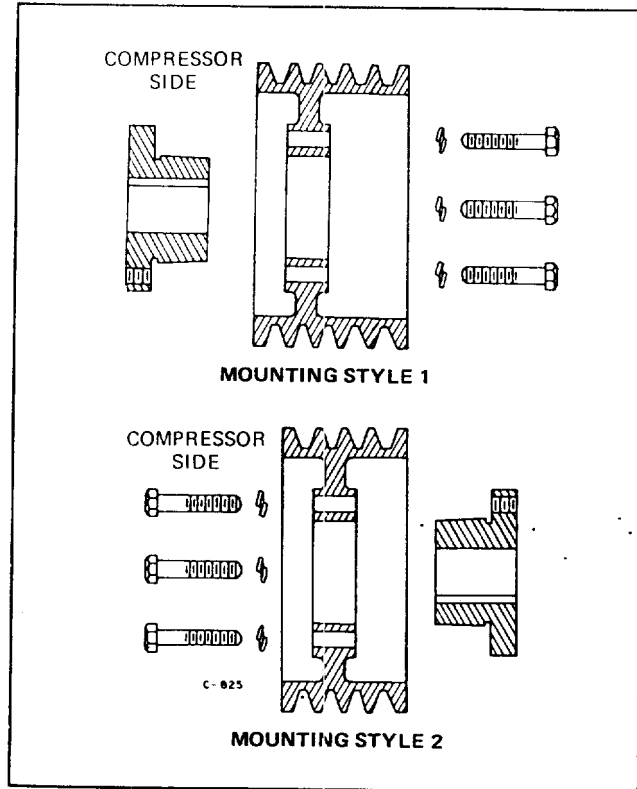

Figure 9. Assembly of Sheave and Bushing
3. Assemble bushing and sheave as shown in Figure 9. Cap screws should be loosely inserted so that the bushing remains fully expanded to assure a sliding fit on shaft. Bushing and sheave should be assembled using mounting style 1 or 2 depending on distance required from compressor centerline to side of sheave, as shown on foundation plan.